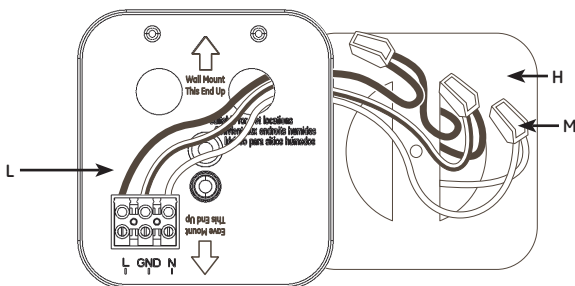

Figure 5
- c. Review final wiring connection diagram before proceeding with installation (see **Figure 5**).